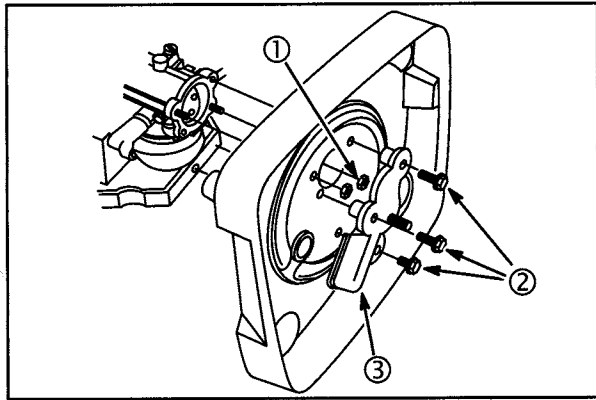

Fig. 1
**Current style: (Round cartridge), Fig. 1.**
2. Remove three screws (2) and breather deflector (3).
3. Remove two carburetor mounting nuts (1).